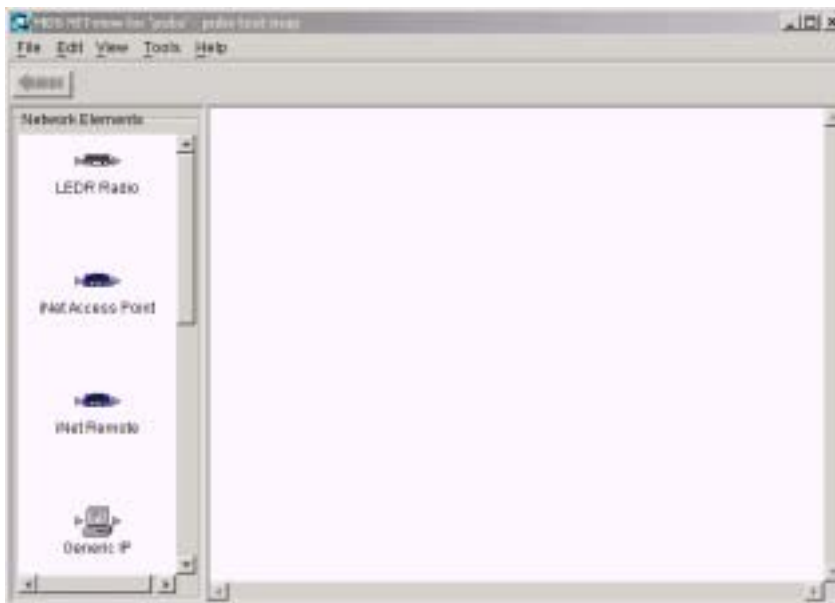

Figure 39. Map Building Screen
- b. Click **New Map**. A dialog box appears for entering a name for the new map. Enter the desired name and click **OK**. A new screen appears that is ready for map building (Figure 39).